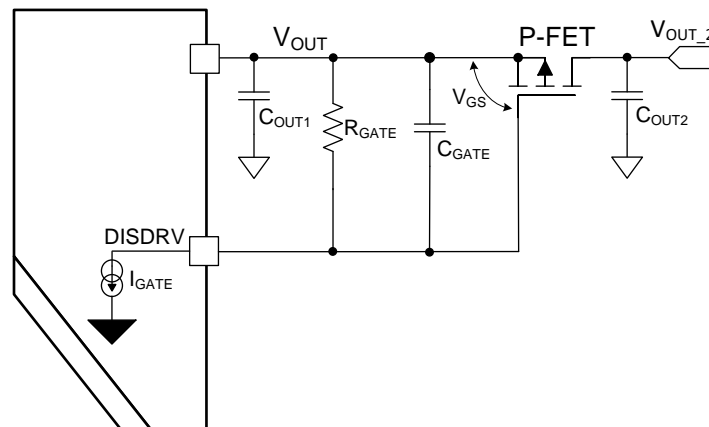

Figure 3. P-FET Driving Circuitry
- At t_0 , the EN pin becomes logic high. After a short delay, the TPS61178x starts switching and boosts the voltage at the VOUT pin to $1.1 \times V_{IN}$. At the same time, the DISDRV pin discharges to ground with a typical 55- μ A current source, as shown in Figure 3. The gate-to-source voltage V_{GS} of the P-FET decreases. The slew rate is determined by Equation 1, where I_{GATE} is typical 55 μ A; τ is $R_{GATE} \times C_{GATE}$.
The R_{GATE} in Figure 3 is used to clamp the V_{GS} not higher than $-I_{GATE} \times R_{GATE}$. Make sure the $|V_{GS}|$ is high enough to drive the P-FET while lower than the maximum voltage rating. In the TPS61178x EVM, the R_{GATE} is 100 k Ω to get $-5.5 V$ for the CSD25404Q3.